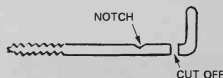

Fig. 18-15. One method of making a pin to support a chime tube or bar.
4. The chime support pin, Fig. 18-15, is one way of hanging the chime tubes or bars. A fine wire also works well. The tubes should not be supported rigidly as this will deaden the ringing tone. They should hang straight and vertical.